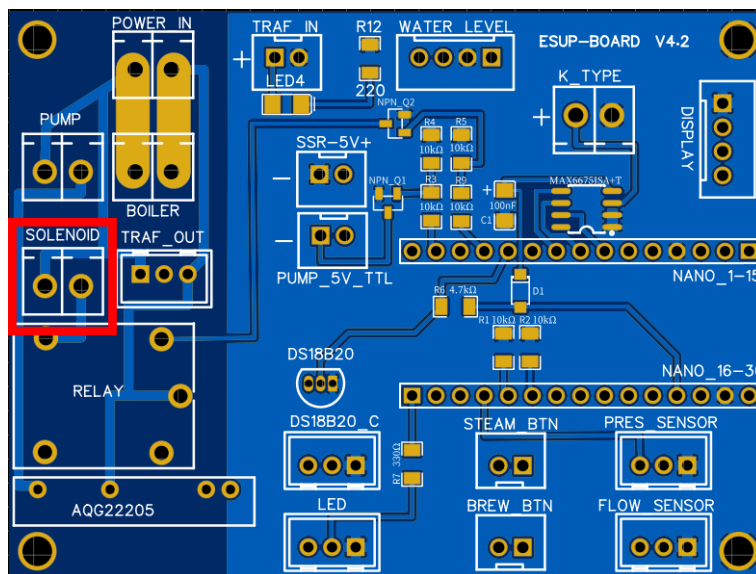

Fig.12.1
- Take Solenoid cable and connect it from the main board to the Solenoid (fig.12.1)